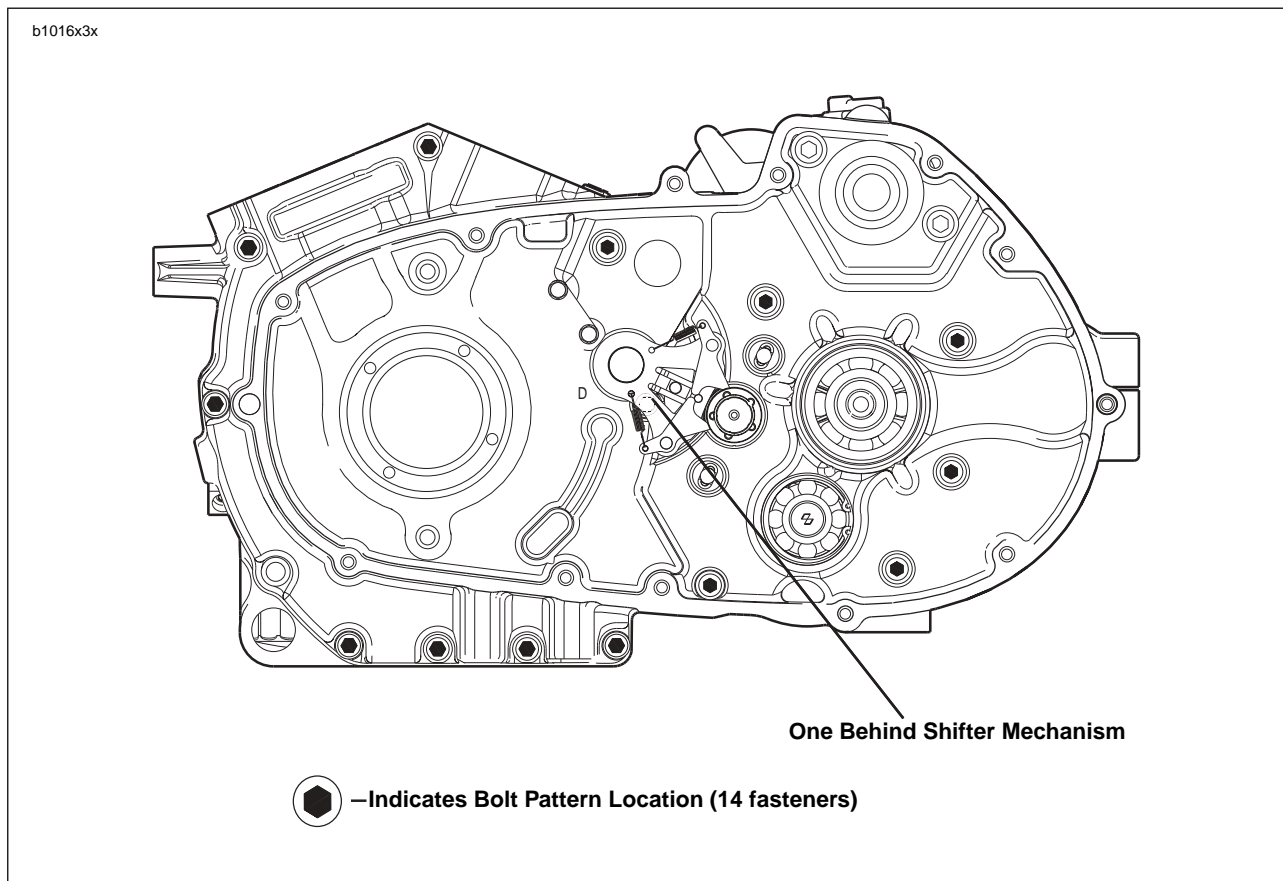

Figure 6-52. Crankcase Fasteners
16. See Figure 6-52. Remove crankcase bolt set (14 fasteners).